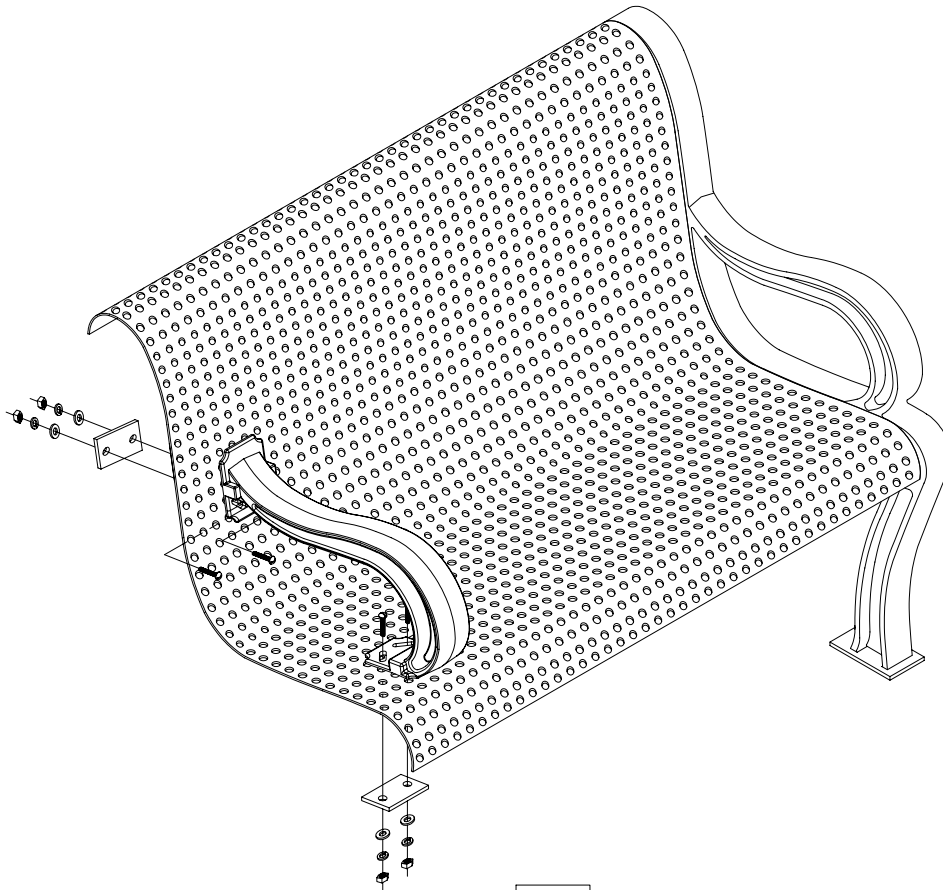

FIG. 1
Place arm on bench and adjust location slightly until the four bolts can be placed through the pattern of the bench, see Fig. 1. With one flat washer (G) on the machine screw (F), push the screw through from the front. Add one flat washer (G), one lock washer (I) on the back and then the nut (H). Insert all fasteners before tightening with screw driver and wrench.
Place arm on bench and adjust location slightly until the four bolts can be placed through the pattern of the bench, see Fig. 1. With one flat washer (K) on the machine screw (J), push the screw through from the front. Add one flat washer (K), one lock washer (M) on the back and then the nut (L). Insert all fasteners before tightening with screw driver and wrench.